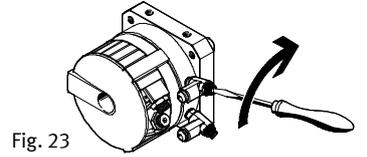

Fig. 23
- first close completely (Fig. 23),